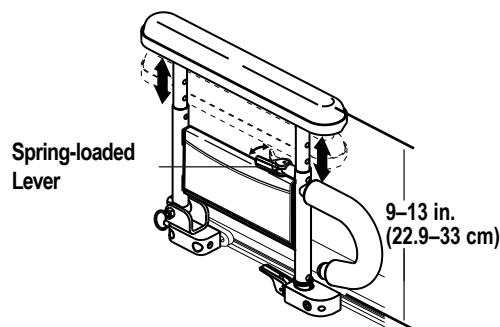

Figure 11. Two Post Armrest Height Adjustment
1. Push the spring-loaded lever inward. **See figure 11.**